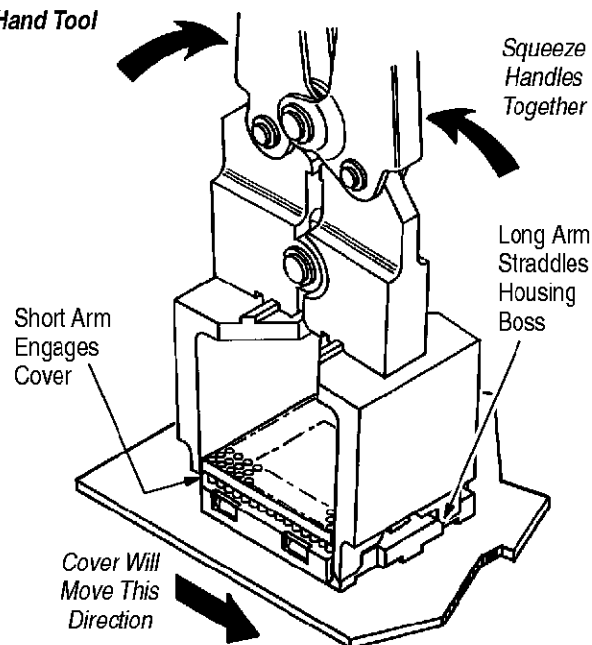

Figure 4
3. Squeeze tool handles together until socket cover clicks to a closed position (See Figure 4). Cover will visibly move to other side of housing, revealing a white housing edge on side of socket opposite from when it was open.
2. Squeeze tool handles together until socket cover clicks to open position (See Figure 4). Cover will visibly move to other side of housing, revealing a white housing edge on side of housing opposite from when it was closed.